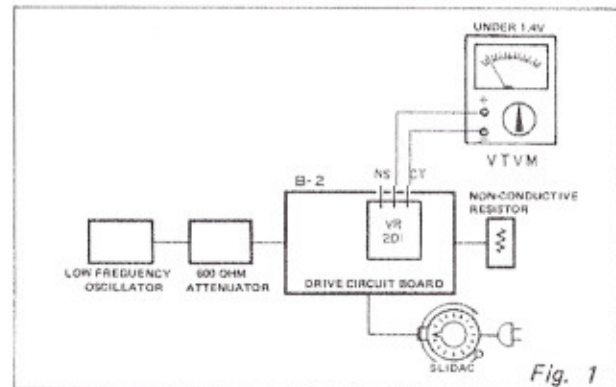

Fig. 1
- b. As the LED circuit board (1) and (2) are bonded to the chassis with foam rubber as shown in Photo 8, lift off from the chassis after unsoldering the leads.
- b. Pull off lever. (refer Figure 1)
- c. Remove power switch by removing screws (3) and (4) shown in Photo 8.
- a. Remove meter by removing screws (5) through (8) and (9) through (12) shown in Photo 8.
- (1) Connect as shown in Figure 1 and, prior to turning on the power switch, turn drive circuit board BIAS VR (VR102) fully counter-clock-wise.
- (2) With no signal input, connect a VTVM between terminals NS and CT of the left and right channel drive circuit boards.
- (3) Turn amplifier power supply ON with the slidac in 0V position and adjust slidac to rated voltage (100V) while observing the VTVM connected to the left and right channels does not exceed 1.4V.